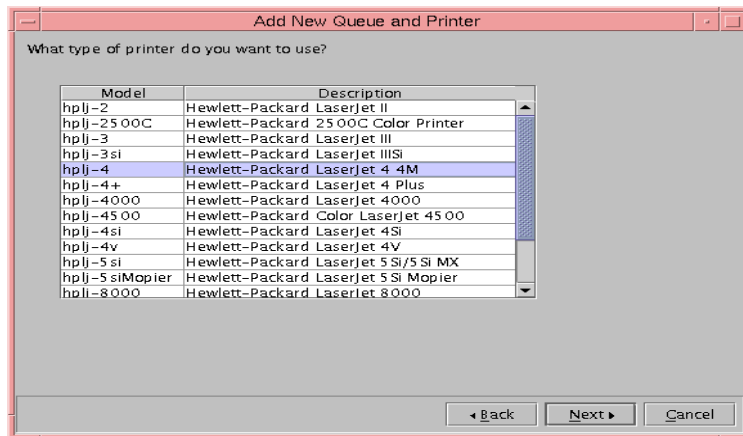

Figure 76. JetDirect-attached printer model
5. From the list shown in Figure 76, we selected **hpj-4**, which corresponded with our HP LaserJet 4M, and clicked **Next**.